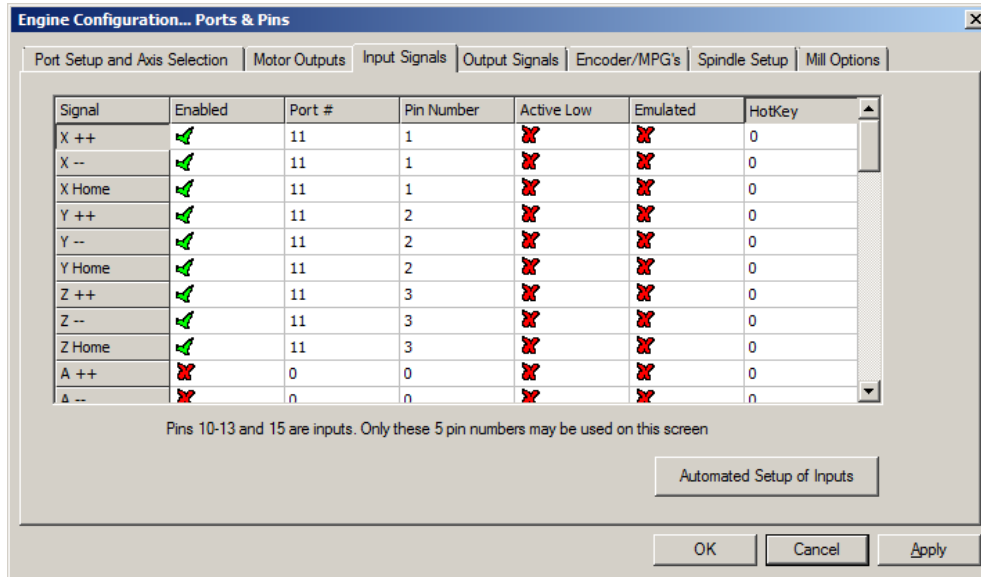

FIGURE 25 INPUT SIGNALS
- Click on the **Input Signals** tab (See Figure 25).